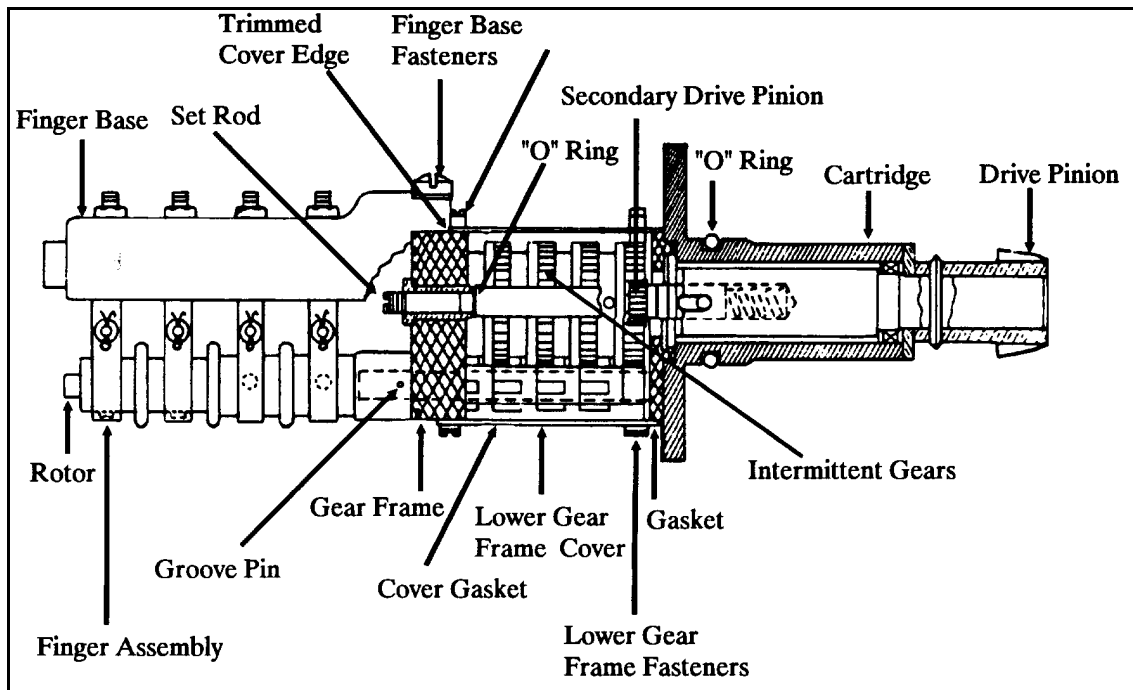

Figure 6-23 Limit Switch Section View
39. Two Train Limit Switch and Cartridge Installation Refer to Figure 6-23